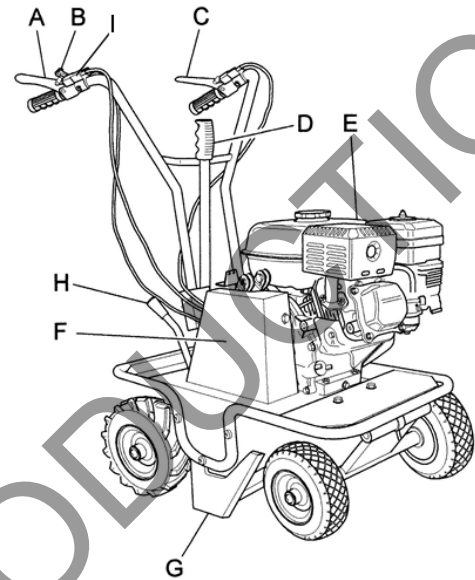
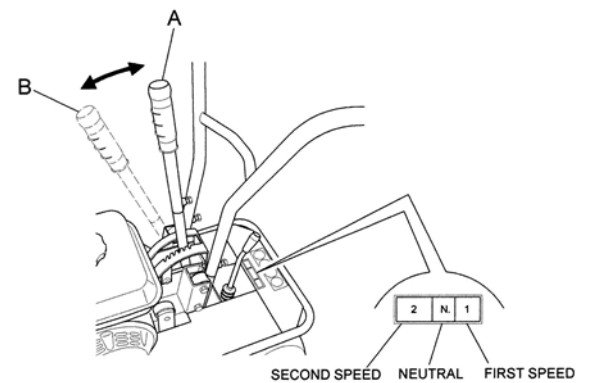
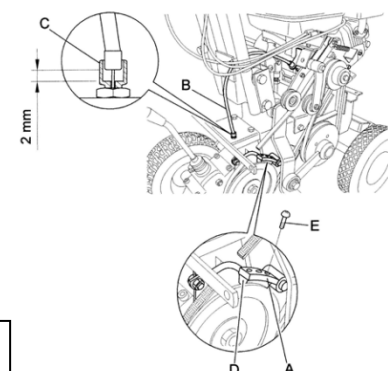

Fig. 1
Fig. 2
Fig. 9
This lever serves to adjust the cutting height according to the type of terrain and the thickness of the turf to be cut. (Fig.2 Ref. A)
The cover (Fig. 1, ref. F) prevents any contact with the moving parts of the machine. Use of the machine without the said cover is strictly prohibited.
WARNING: Select the required gear only after disengaging the forward clutch by releasing the relative lever (fig. 1, ref. C).
1. Move the gear lever (fig.2) to the 1st speed position
2. Engage the blade control level using the relative lever (Fig. 1, ref. A)
3. To move the machine, accelerate and then engage the forward clutch using the relative lever (Fig. 1, ref. C).
4. To select a different gear the forward clutch and the blade clutch must first be disengaged by releasing their levers (Fig. 1, ref. C and Fig. 1, ref. A). Then select the desired FORWARD position (in fig. 2) using the gear lever (Fig. 2), then re-engage the forward clutch control lever (Fig. 1, ref. C) to set the machine in motion again.
5. To stop the blade release the relative lever (Fig. 1 ref. A)
6. To stop forward movement of the machine release the relative le.1, ref. C) Then switch off the engine by moving the switch to the position (O) as shown in figure 1, ref. I.
- 2) At first the setting of a relatively high cutting height is recommended (using the relative lever in figure 2, ref. A), lowering it gradually according to working conditions.
- 3) Engage the blade clutch (Fig. 1, ref. A) only after having carried out the machine switch on and gear engagement operations.
- 4) Before engaging the blade clutch (Fig. 1, ref. A), gradually move the accelerator (Fig. 1, ref. B) until the required speed is reached
-Remove the blade (Fig.1 Ref. G) following the instructions provided in the section entitled "Blade removal and replacement"
The service brake (Fig. 9 Ref. A) is connected to the forward control lever (Fig. 1 Ref. C).
With the forward control lever released and the brake engaged ensure that there is play of approximately 2 or 3 mm between the adjustment screw and the brake cable (Fig. 9 Ref B and C)
Make sure that the front part of the brake in direct contact with the pulley (Fig. 9 Ref. D) is not worn. If so, replace it.